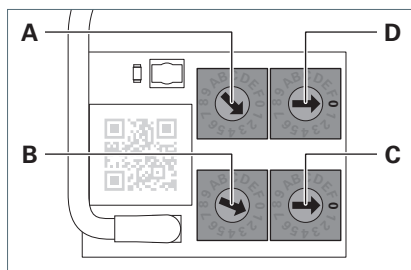

Fig. 8: Deactivating the swarm control, on the TALK module.
- Set the two rotary encoding switches **A** and **B** to any area address **other than 00**, see Fig. 8.